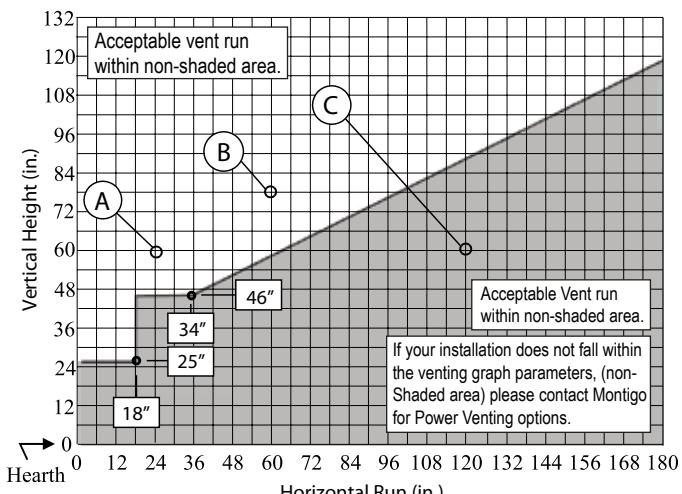

Figure 16. H34DL* Rear Vent Venting Graph for wall mounted terminations, See **Figures 18a & 18b**.
- Venting runs *must* fall within the limits set by the venting graphs, see **Figure 16, 17 & 18**.
Measure the vertical height from the fireplace hearth to the centre of the termination and the horizontal run from the fireplace flue collar to the wall flange of the termination. Plot on the Venting Graph **Figure 16** with an 'X'.
Figure 18b. Rear Vented, wall mounted Multi-elbow termination installation. Installation for H34DL* & H38DL* must have a minimum vertical rise of 46". The Installation for H42DL* must have a minimum vertical rise of 50". The vent run must comply with the Venting Graph for Rear vent, wall mounted terminations, Figures 16, 17 & 18.